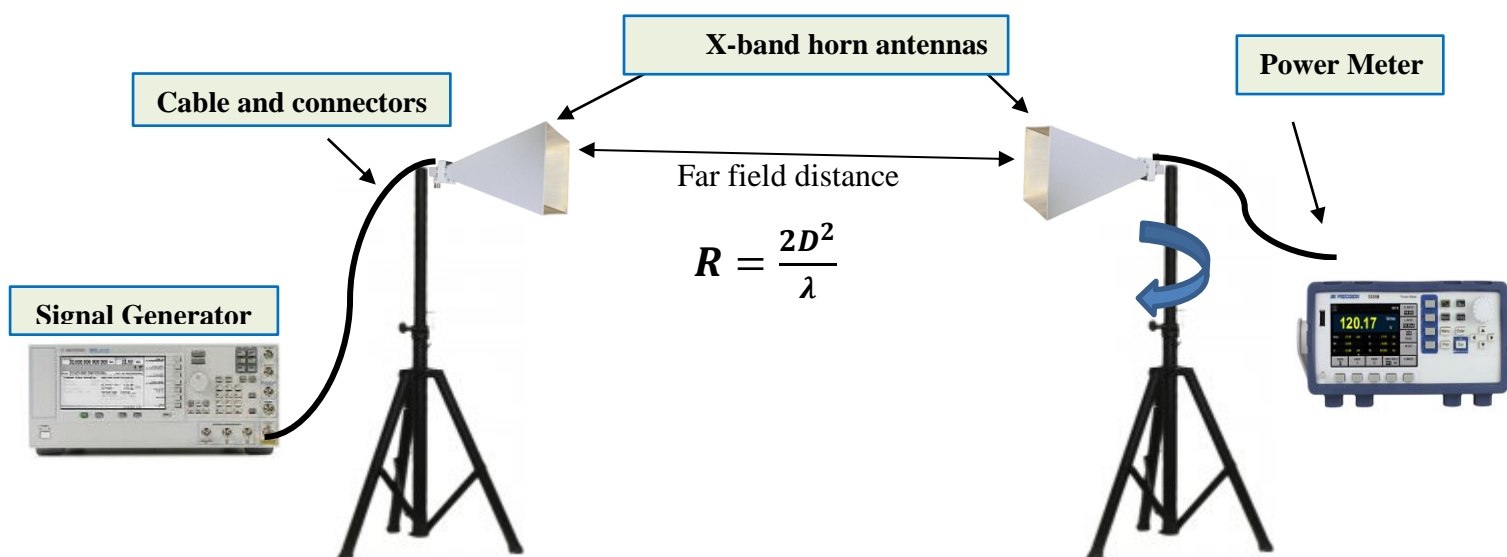

Fig. 9.1. Experimental set-up to measure the radiation pattern of an antenna.
1. Set the component and equipment's as shown in Fig.9.1